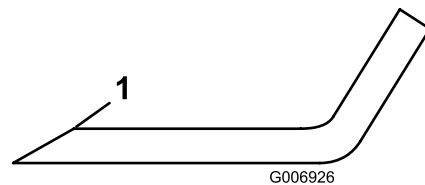

Figure 87
4. Inspect the cutting edges of all blades. If they are dull or nicked, sharpen the top of the cutting edge and maintain the original cutting angle to ensure sharpness (Figure 87).